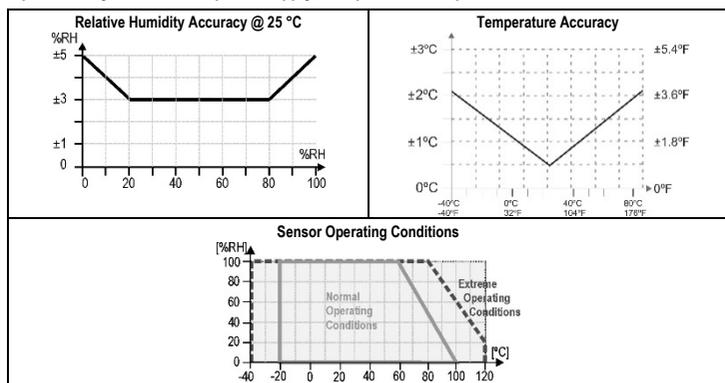

Figure 1 – RH and temperatures accuracies
- Range: 0 and 100 % (RH) (see Fig. 1);
- Accuracy: See Fig. 1; Repeatability: ± 1 % RH;
- Accuracy: Refer Fig. 1; Repeatability: ±0.1 °C;
- Range: -20 and 100 °C (see Fig. 1);